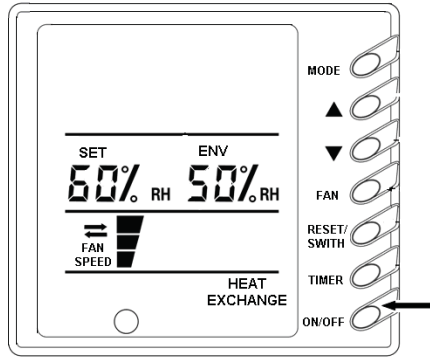

Fig.3
- (1) Press ON/OFF button to start the unit. (Fig.3)
- (2) Press ON/OFF button once again to stop the unit.